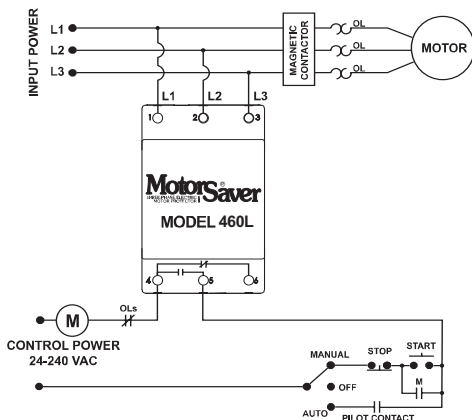

Figure No. 1: Motor Control Wiring Diagram
2. Connect L1, L2 and L3 on the MotorSaver's terminal strip to the LINE SIDE of the motor starter. (See Figure No. 1).
3. Connect the output relay to the circuitry to be controlled. Connect the normally open contact in series with the magnetic coil of the motor starter as shown in Figure No. 1 for motor control. Connect normally closed contact in control circuit as shown in figure No. 2 for alarm operation.